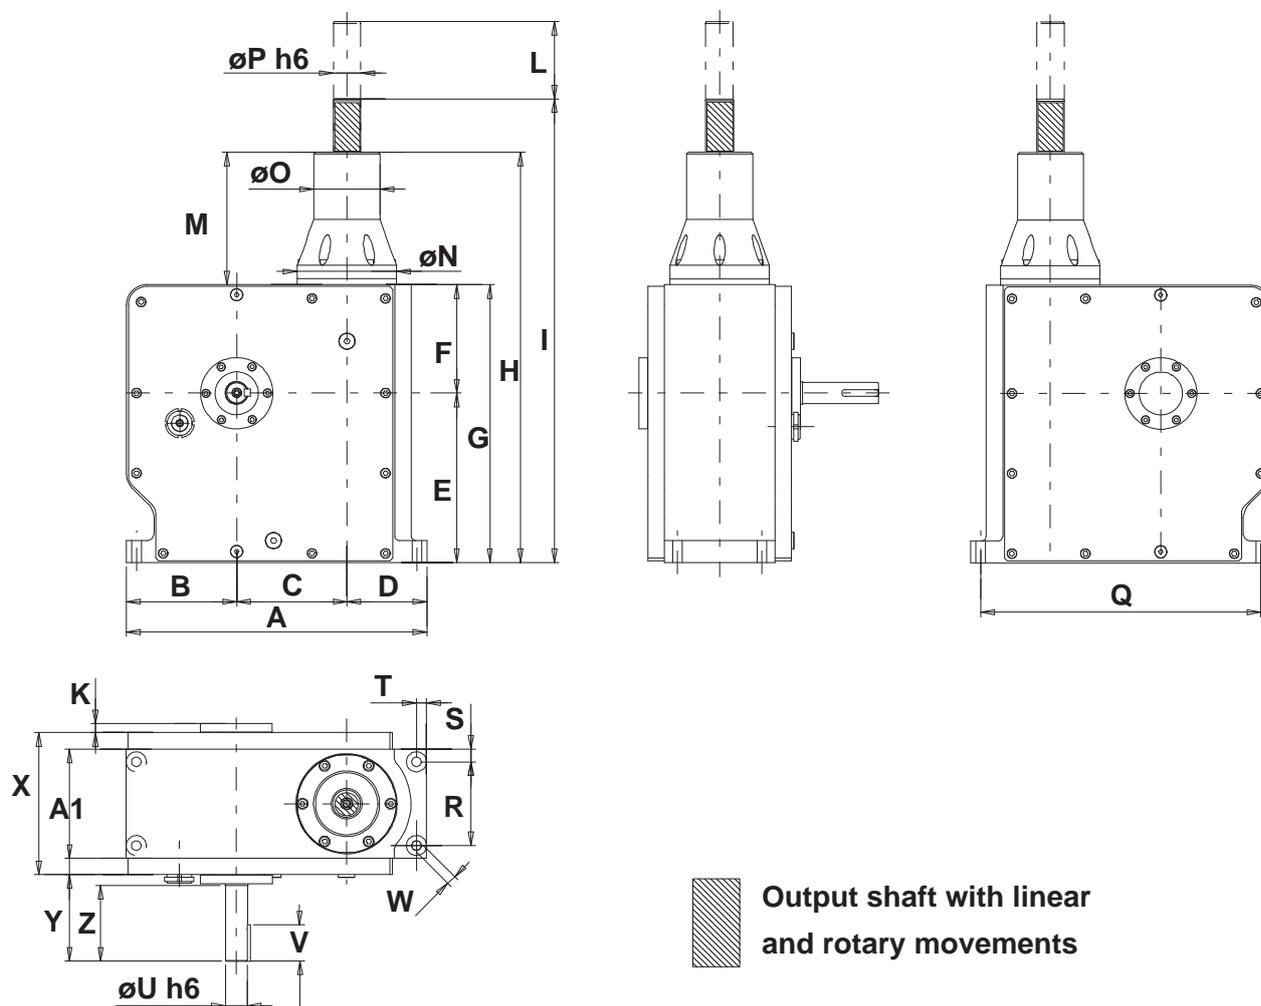

Fig. 11
**N.B.** The input shaft keyway is in the position shown in **Fig. 11** when the movement is at the start of the cyclogram (point 1 - 0° of the cycle).